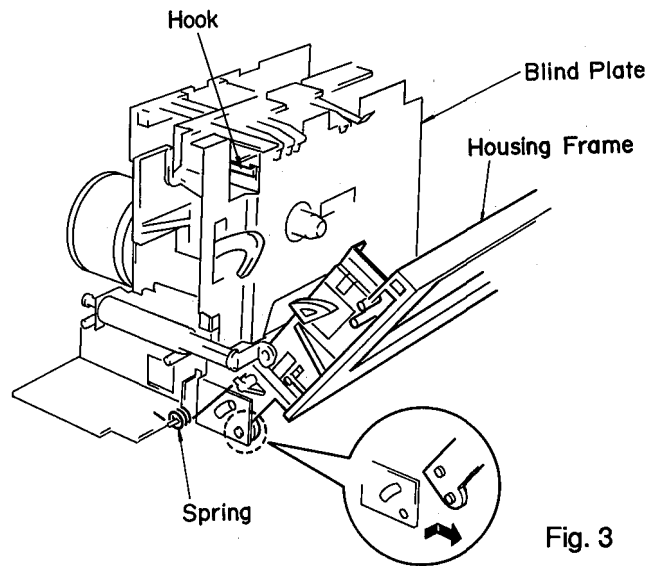

Fig. 3
- d. Remove the blind frame by removing the hooks on both sides of the plate in fig. 3. (The back light LED can be replaced when the blind plate is removed.)